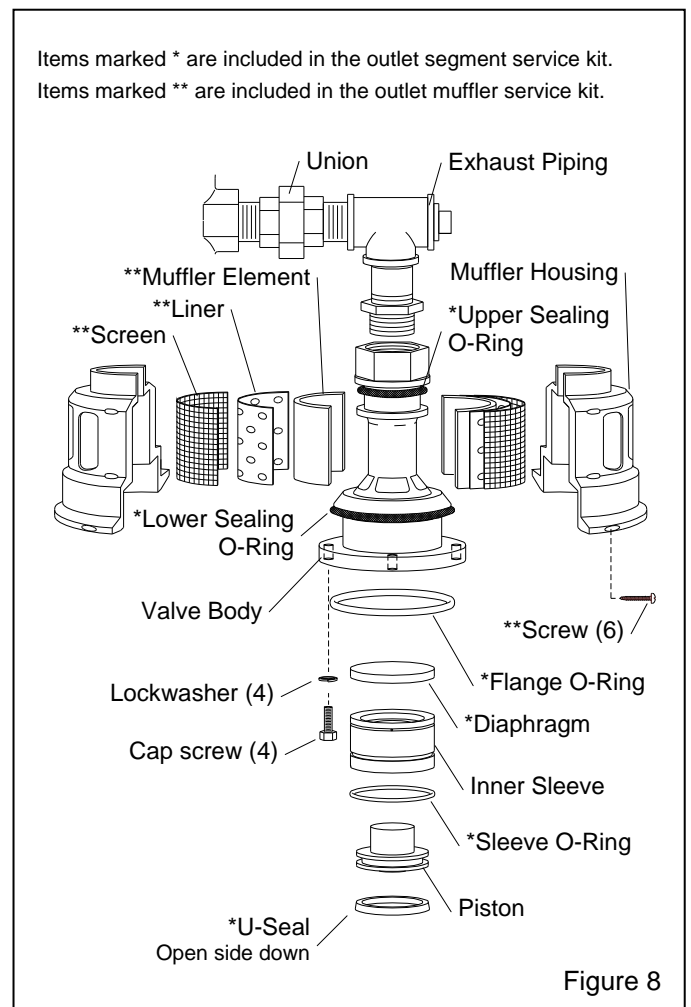

Figure 8
6.4 Millennium Valve Outlet Segment, Ref. Figure 8
6.4.8 Lubricate the U-seal with a silicon-based lubricant, and place the U-seal into the groove in the piston. The open side of the seal must face the bottom of the piston, as shown in Figure 8.
6.4.12 Slide the piston and sleeve assembly into the valve body, the piston faces away from the bottom of the body, as shown in Figure 8.
6.5 Exhaust Muffler, Figure 8